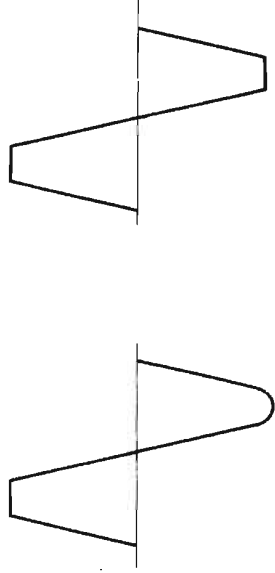

Fig. 4-7-2 AC Balance Adjustment
2. Turn the volume control gradually and watch the waveform on the oscilloscope. Adjust R₈₀₅ (50 kΩ-B) to obtain an output waveform such as the positive and negative peaks are clipped at the same time when increasing the volume control. See Fig. 4-7-2.